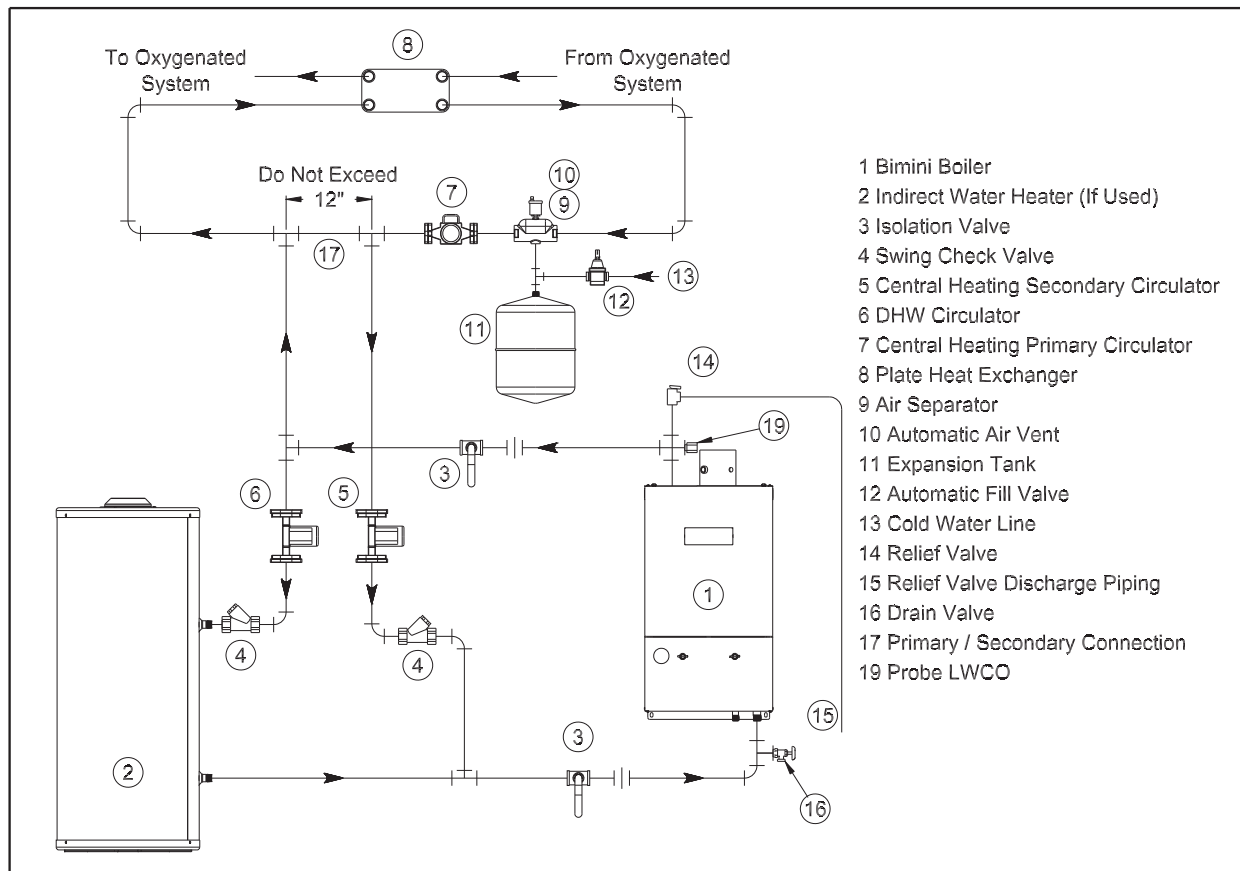

Figure 9.10: Isolation of the Boiler From Oxygenated Water with A Plate Heat Exchanger
If the boiler is to be used in such a system, it must be separated from the oxygenated water being heated with a heat exchanger as shown in Figure 9.10. Consult the heat exchanger manufacturer for proper heat exchanger sizing as well as flow and temperature requirements. All components on the oxygenated side of the heat exchanger, such as the pump and expansion tank, must be designed for use in oxygenated water.
3) Radiant Tubing and Oxygen Barriers - Even if the system is tight, oxygen can be introduced into the system through some types of non-metallic tubing used in radiant or snow melt systems. Other non-metallic tubing is equipped with an oxygen barrier to prevent migration of oxygen into the water. If the boiler is to be installed in a system containing non-metallic tubing without an oxygen barrier, it must be isolated from the boiler with a heat exchanger as shown in Figure 9.10.